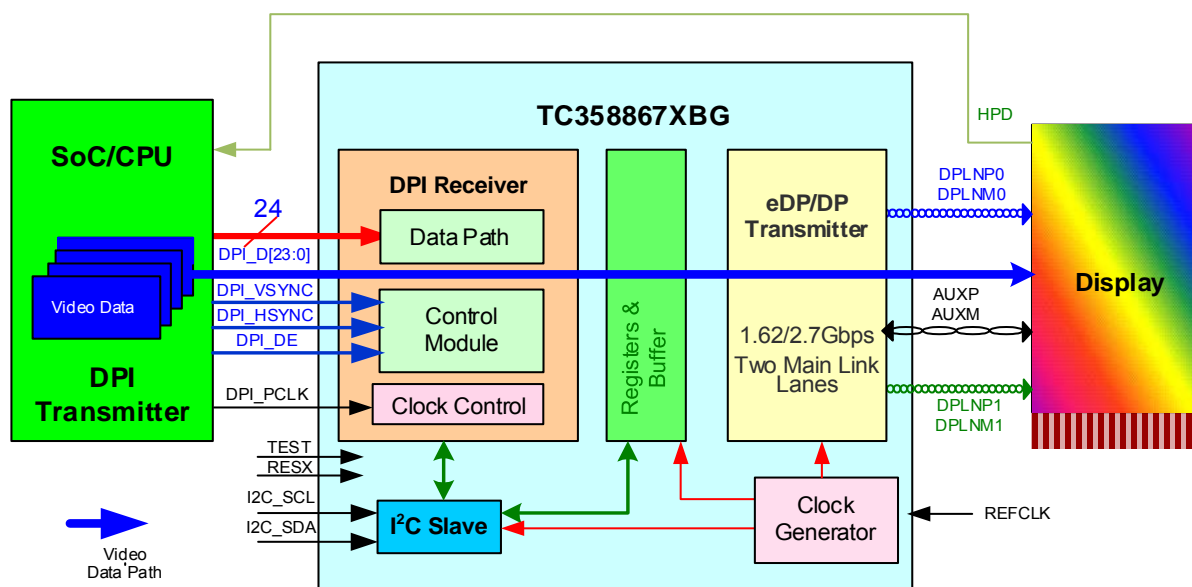

Figure 1.2 System Overview with TC358867XBG in MODE_P21 Configuration
- **Mode_P21:** A system configuration where TC358867XBG may typically be used is shown in Figure 1.2. This is similar to the Mode_S21 except that the video stream source is from DPI Host. In this configuration, the TC358867XBG can support displays with resolution up to WUXGA (1920×1200) at 24bit, 60 fps.